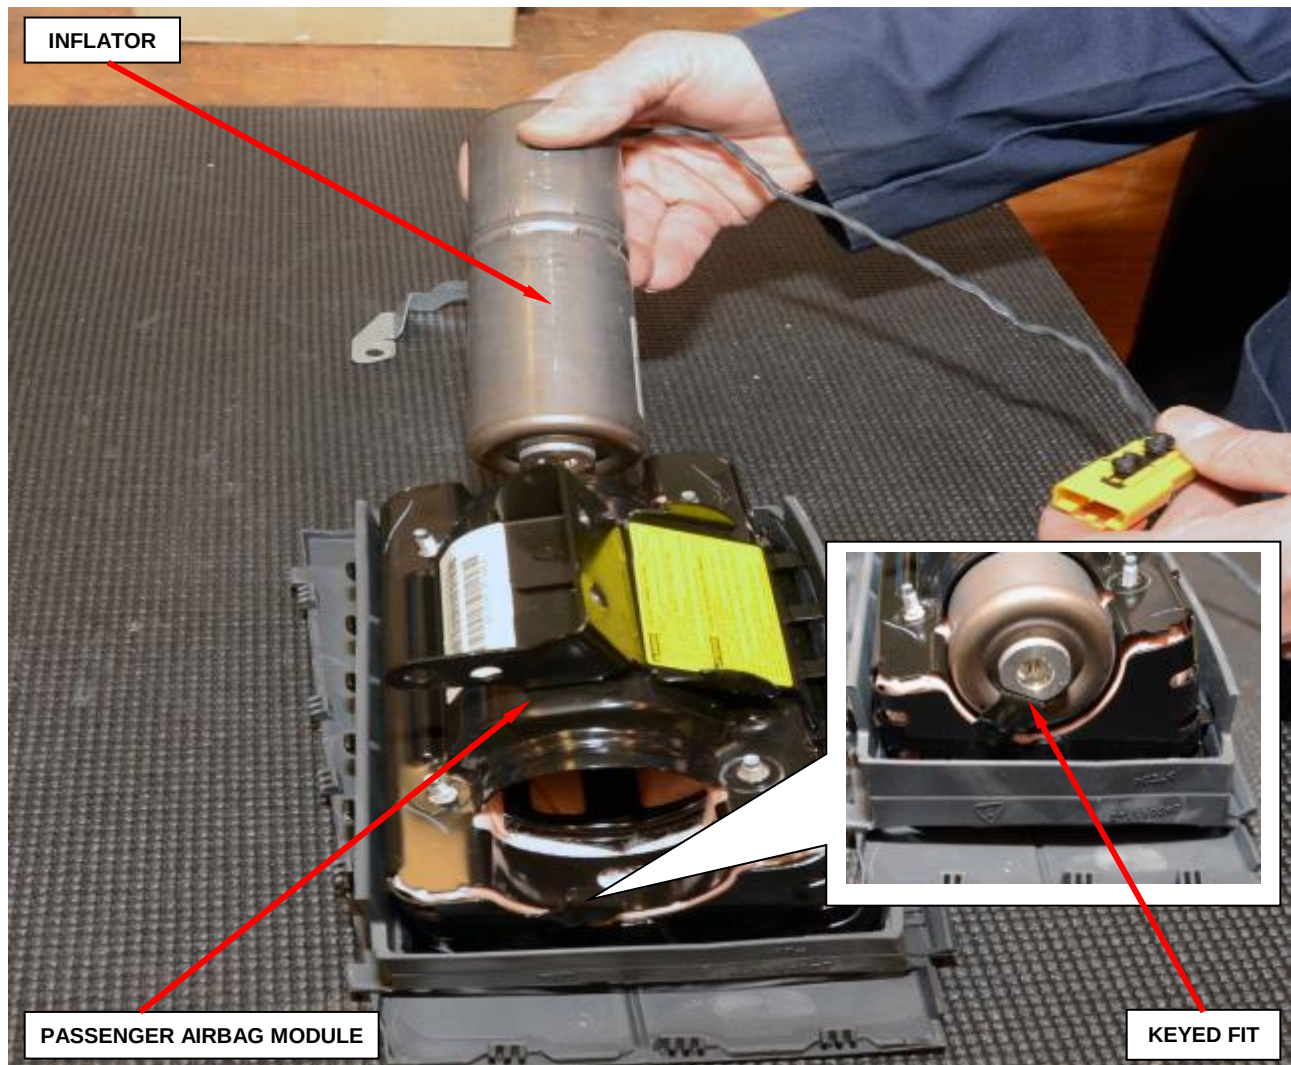

Figure 159 – Passenger Inflator Installation
NOTE: The inflator's key MUST line up with the housing's key (Figure 159).
- o.** Slide the **new** inflator into the passenger airbag module (Figure 159).
NOTE: The inflator is keyed to fit into the housing (Figure 159).